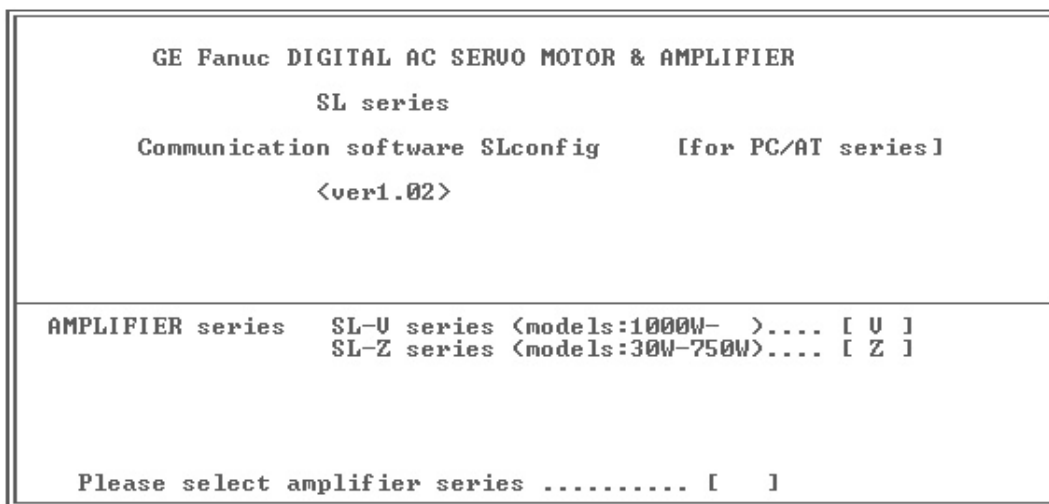
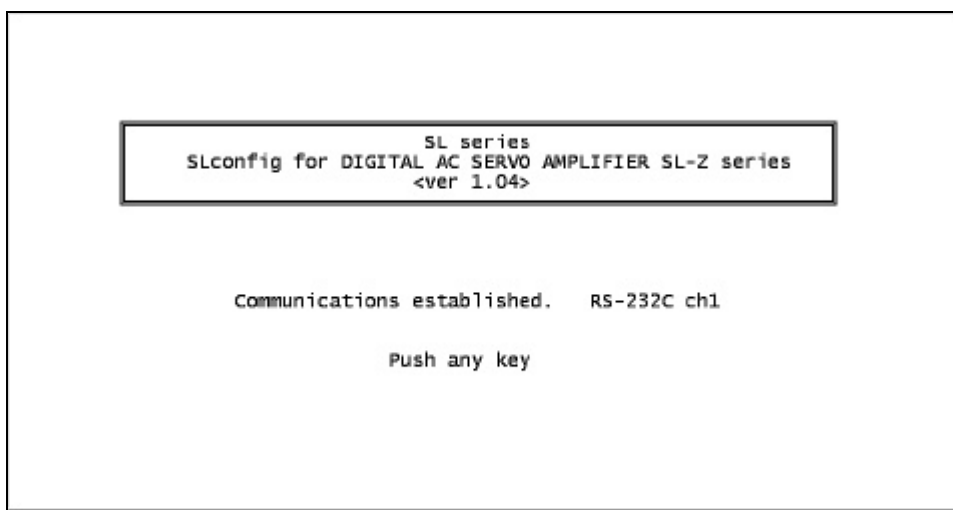

Figure 8-17. SLconfig Main Startup Screen
Figure 8-18. The Z-Series Amplifier Startup Screen
Each file has its own revision level. These can be read from each file's startup screen. For examples of this see figure 8-17 for the Main Startup Screen, Figure 8-18 for the Z-Series Startup Screen, and Figure 8-52 for the V-Series.
- If you wish to use your computer's COM1 port, type in SLconfig. If you wish to use your computer's COM 2 port, type in SLconfig -s2 (note the space between SLconfig and -s2). Then press the Enter key and the SLconfig software will start running and will bring you to the Main Startup screen, shown in Figure 8-17.
- If no shortcut exists, click the Start button on the Windows 95 Taskbar, highlight Programs on the menu, and then drag your mouse across to the SLconfig selection on the sub-menu. This will start SLconfig running and will bring you to the Main Startup screen, shown in figure 8-18.